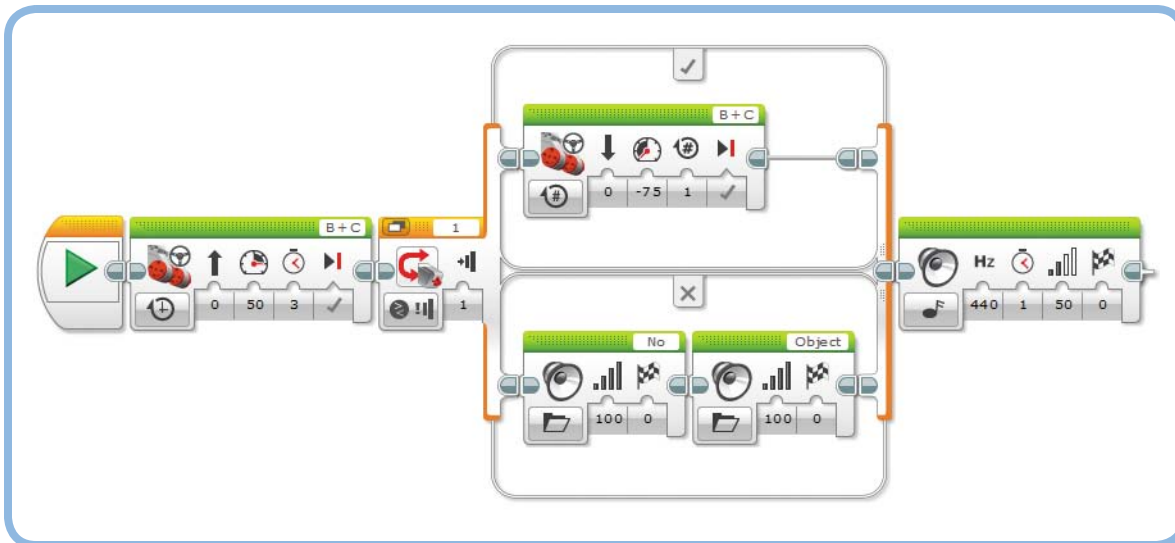

Figure 6-13: The *TouchSwitch* program has the robot decide what to do based on a sensor reading.
The *TouchSwitch* program you'll now create makes the robot drive forward for three seconds. Then, if the Touch Sensor is pressed, the robot reverses for a short while. If the sensor is not pressed, the robot instead says "No Object." Finally, regardless of the Switch block's decision, the robot plays a tone. Now create the program, as shown in Figure 6-13.
- * A *Switch block in Compare mode* runs the sequence of blocks at the top if the condition is true; it runs the blocks at the bottom if it's false (see Figure 6-13).